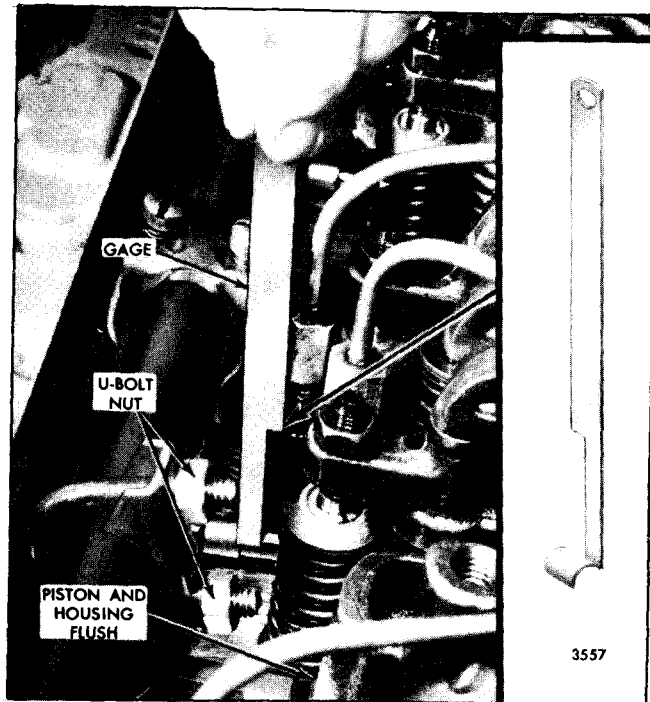

Fig. 3 - Adjusting Throttle Delay Cylinder
1. Refer to Fig. 3 and insert gage J 25559 (.570" gage length) between the injector body and the shoulder on the injector rack clevis of the injector nearest to the throttle delay cylinder.